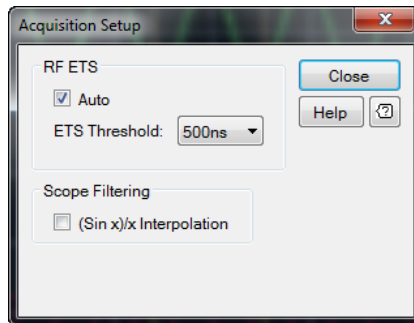

Figure 2-29 Acquisition Setup dialog
- The Acquisition Setup dialog is displayed as shown in Figure 2-29. Select the **Auto** check box to enable the auto-ETS feature and select the desired ETS threshold. Select the **(Sin x)/x Interpolation** check box to allow 1 GHz analog bandwidth verification.